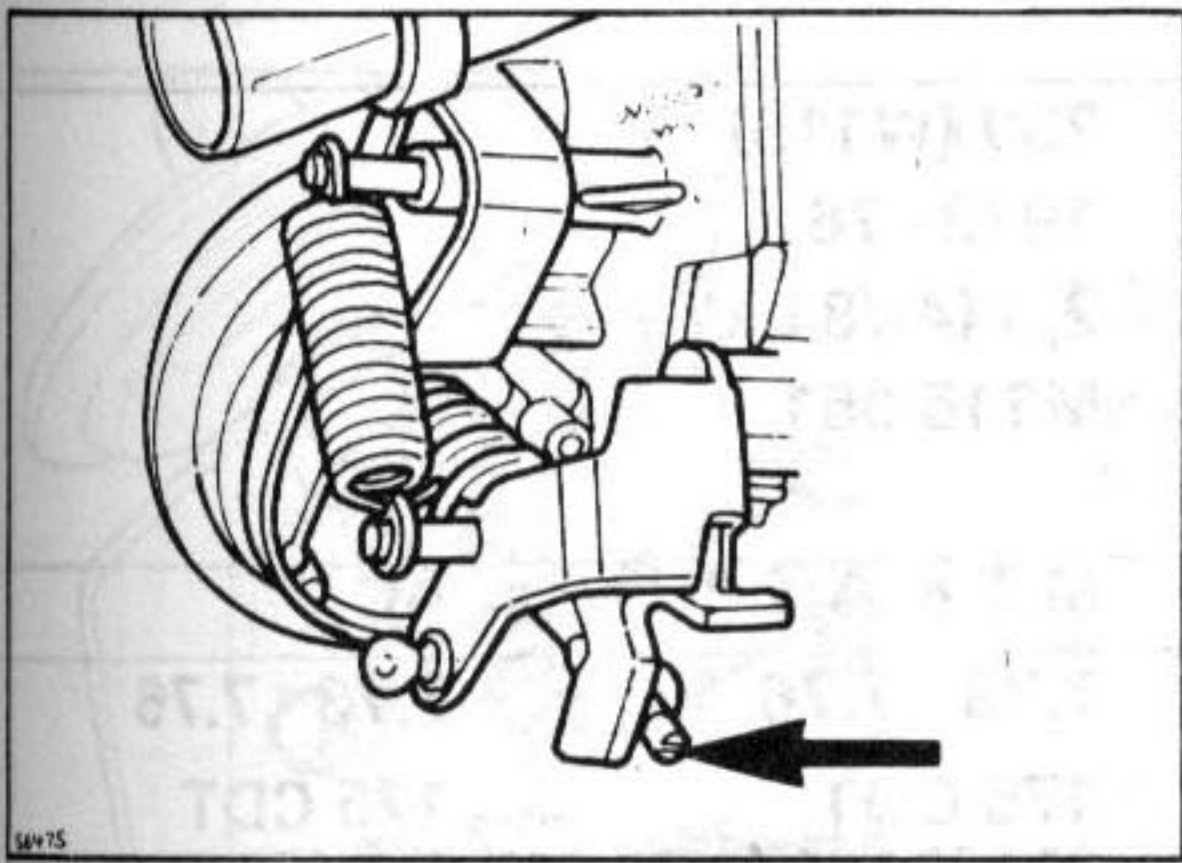

Fig. 4 Location of shear screw
- d) If clearance is outside specified limit adjust by means of a new shear screw (Fig. 4) and break off head of screw when adjustment is completed.